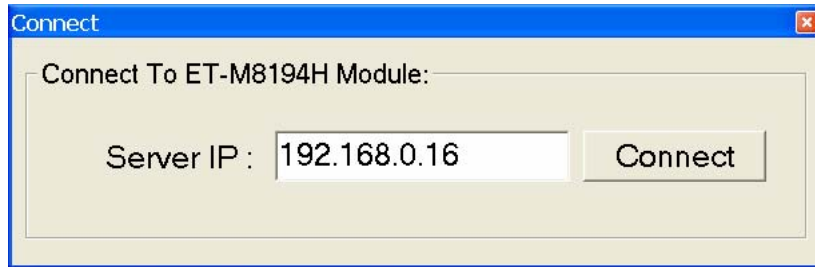

Figure 8: Connect to ET-M8194H
Step 3: Enter the device IP address and click “**Connect**” (Figure 8).